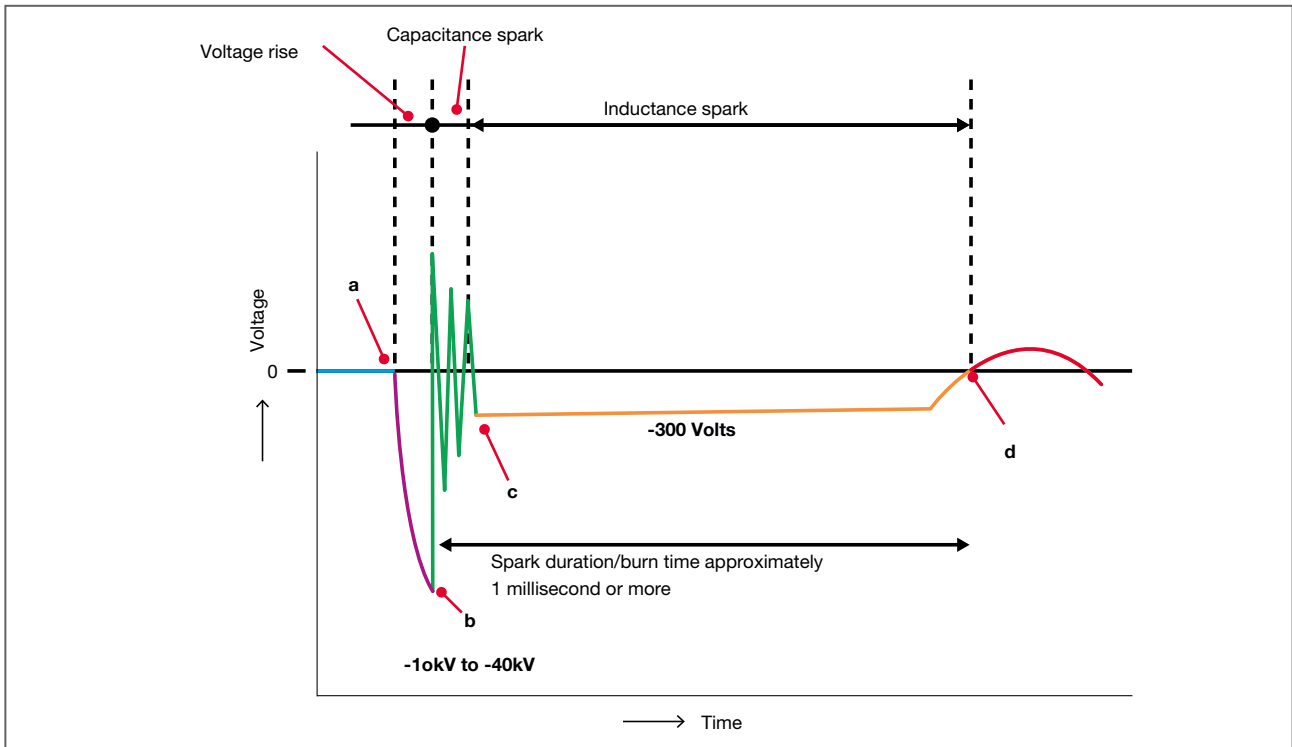

Fig 6.4 Different phases and voltages when the spark is generated and maintained
The spark itself can reach temperatures of over 10,000°C; however the discharge duration can be as short as 1 millisecond. During this brief discharge period, the spark structure is extraordinarily complex and is made up of different phases and different voltage levels that are shown in Fig 6.4.
**A flow of electricity (even across a spark plug gap) is a flow of the negatively charged electrons. Electron flow is easier to create from a hotter surface. The spark is created by forcing the electrons to flow from the hotter centre electrode to the cooler ground electrode, which means that the ignition system creates a negative voltage spark. The voltage requirement of 10kV to 40kV is therefore a negative voltage. This is why the voltages at points 'b' and 'c' in Fig 6.4 are negative.**